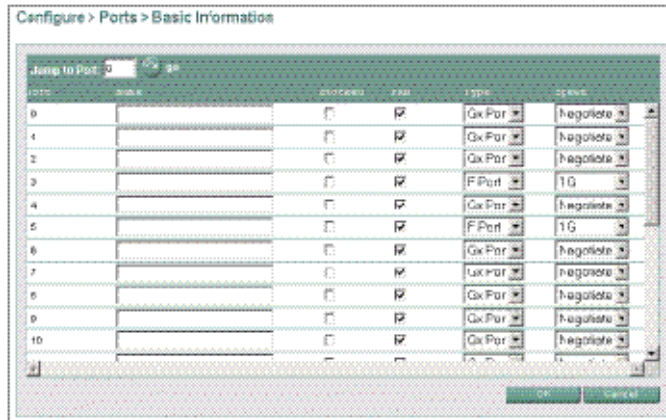

Figure 4-7 Basic Information View
1. Select *Ports* and *Basic Info* from the *Configure* menu (*Configure>Ports>Basic Info*). The *Basic Information View* appears (Figure 4-7).